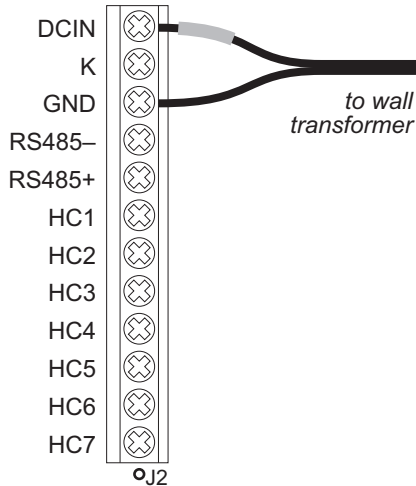

Figure 2-1. BL1600 Power Supply Connections at Header J2
1. Connect the power supply to the BL1600. Connect the two leads from the DC power supply or wall transformer to header J2 as shown in Figure 2-1. Do not power up the power supply until the remaining steps have been completed.